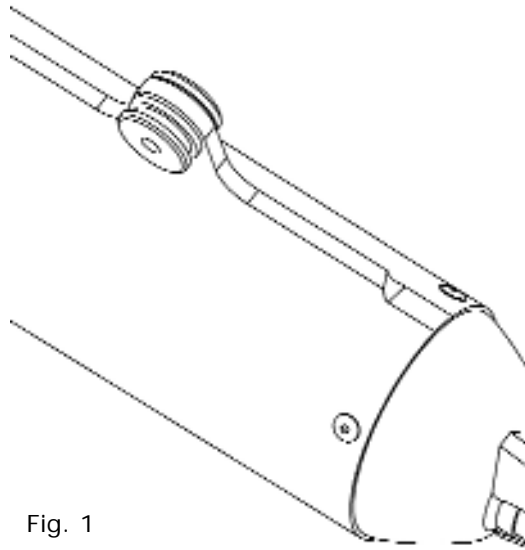

Fig. 1
8. Install the aluminum spacers removed in step #5 onto your FMF silencer. Be sure to install the thicker spacers to the outside of the front silencer mounts (Fig. 1).